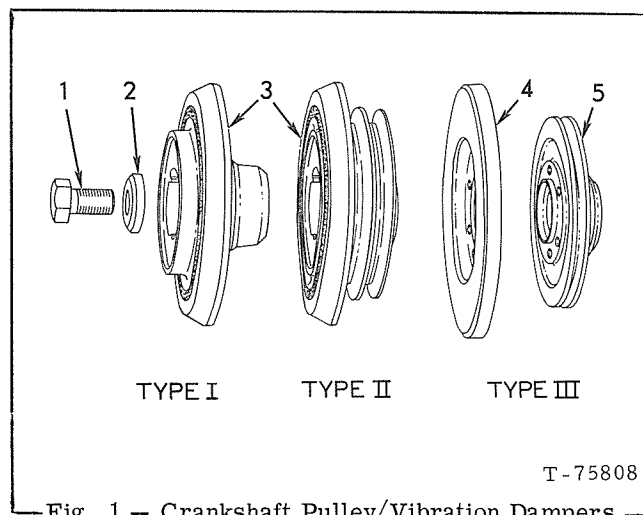

Fig. 1 - Crankshaft Pulley/Vibration Dampers
The Type I and Type II crankshaft pulley/vibration dampers, as shown in Fig. 1, consists of a cast iron hub and a cast iron damper which is an integral part of the hub but is separated from metal-to-metal contact by a layer of neoprene compound. The whole unit is accurately balanced. The Type I assembly is used on track-type tractors and the Type II on tractor loaders. The type III damper (Fig. 1) used on HD12G & 745 loaders has a metal ring enclosed in an outer housing and suspended in a viscous fluid. The floating ring absorbs the shock and vibrations. The damper is bolted to crankshaft pulley on 745 loader and the drive pulley on the 12G loader.
pulley/vibration damper, Fig. 1, are the same. Proceed as follows:
6. Inspect key and keyway for wear and replace key if necessary. Install key in crankshaft then install pulley, Figs. 1 or 2 (3), washer (2), and retaining capscrew (1). Tighten capscrew to a torque of 290 — 310 lbs. ft.